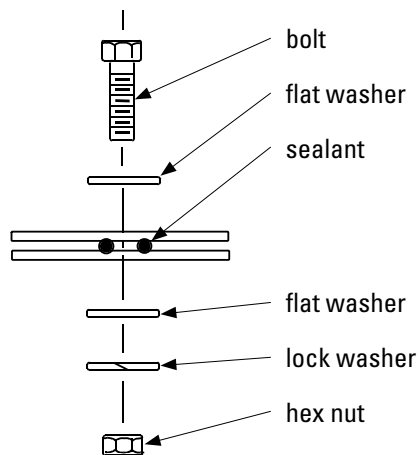

Figure 10: Field joining Detail C
1. From the clean air plenum (to access, remove the outlet cover, see Detail D in Figure 10 -Yoke, venturi and filter installation), thread a hex jam nut and flat washer to the shoulder of each of the three yoke rod ends. See Detail C.